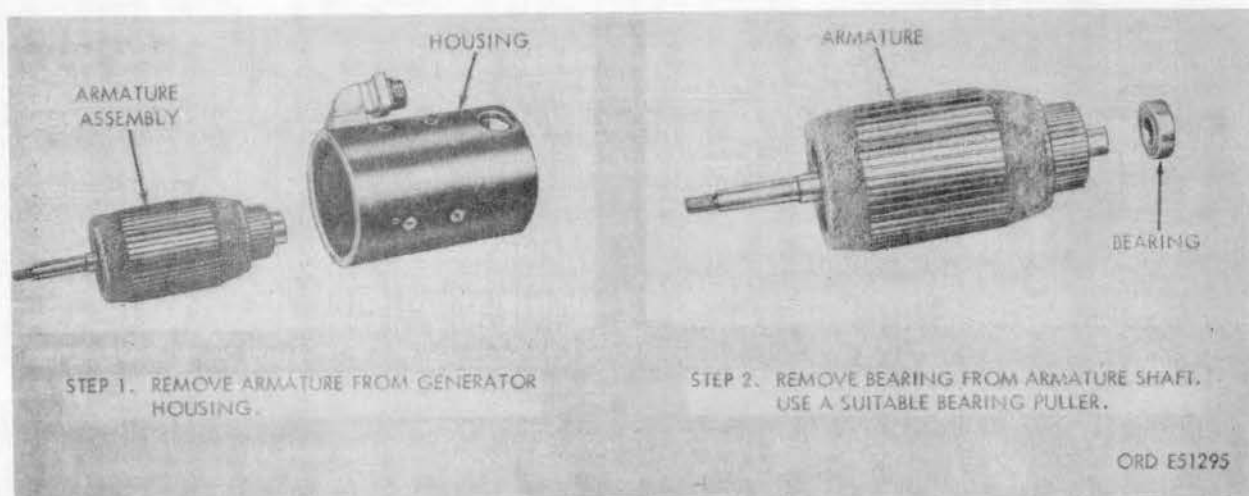

FIGURE 13. REMOVING AND DISASSEMBLING ARMATURE ASSEMBLY.
f. Remove armature from housing and remove bearing from shaft, refer to figure 13.